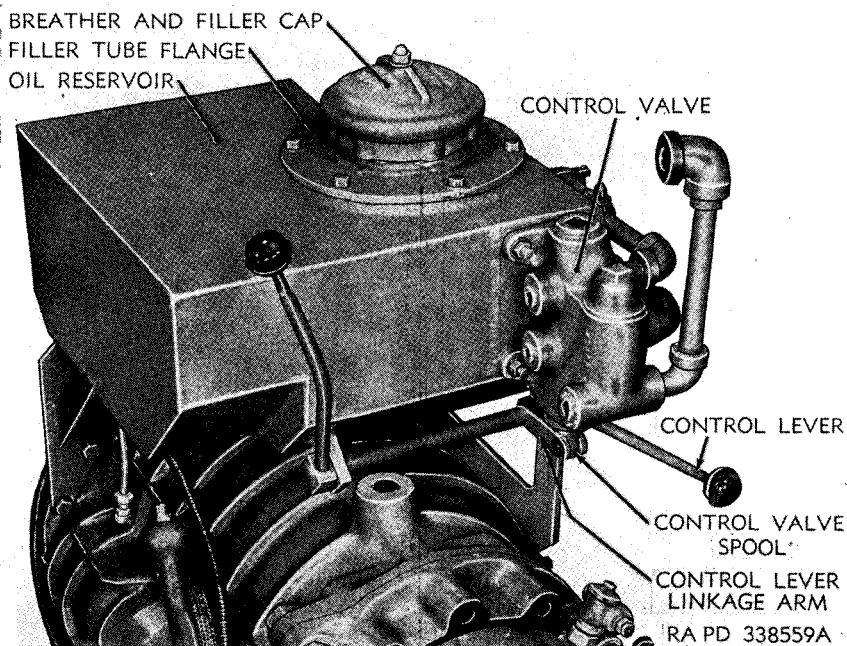

Figure 23. Control valve installed on reservoir.
k. **INSTALL OIL RESERVOIR.** Remove temporarily the entire filler tube assembly, held by six cap screws, from the oil reservoir (fig. 23). Lower the oil reservoir through the turret hatch in the turret, then place it in the driver's compartment. Mount the oil reservoir on the transmission, and secure it with the four top cap screws of transmission inspection hole cover on right side and the two front flange cap screws on the left side of transmission (figs. 5 and 6).
l. **INSTALL CONTROL VALVE** (fig. 23). Install the four control valve studs to the oil reservoir. Place the two control valve gaskets and the control valve over the studs and secure with lock washers and nuts. Connect the control valve to oil reservoir return line with